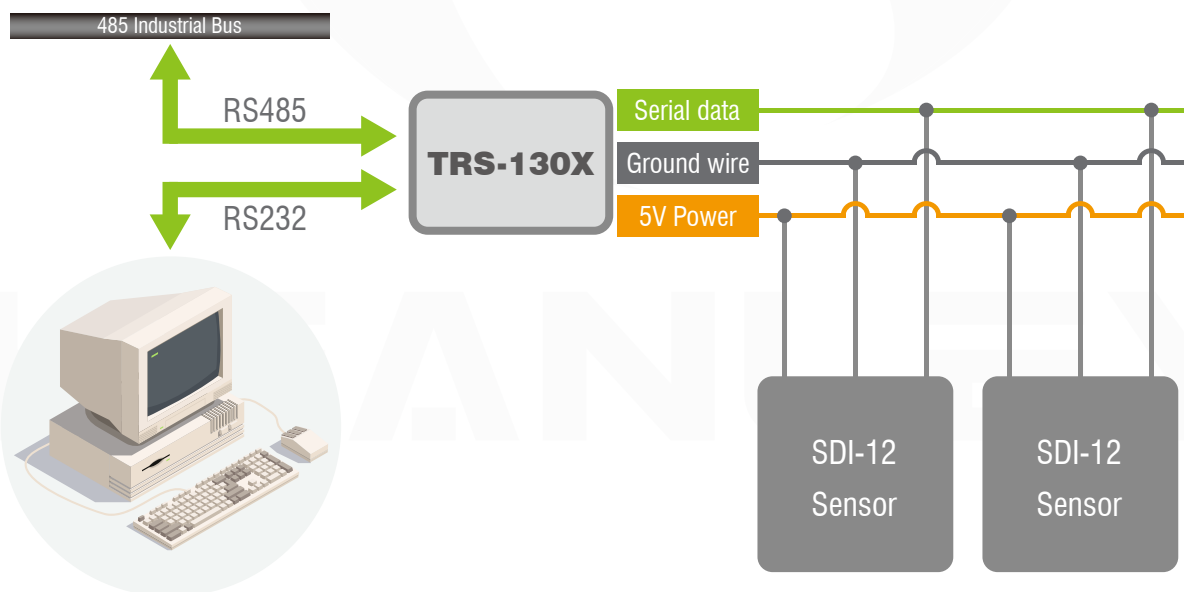

Figure 2. Principle diagram
3. The SDI-12 protocol commands are in readable text format and the command structure is simple, making it easy for on-site technicians to directly use the console for debugging, as shown in Figure 2.